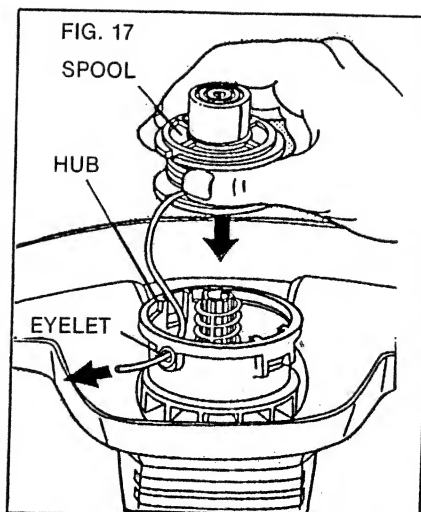

FIG. 17
- c. Holding the line in the gap, insert the end through the eyelet in the hub and slip the spool into the hub, as shown in Figure 17. If the spool does not slip into the hub easily, press gently and pull straight out on the cutting line that protrudes through the eyelet.